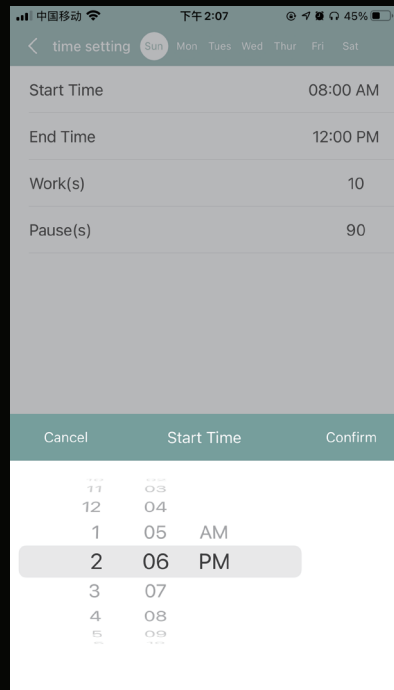

Figure 10
5. Click “Set up” on the main interface to set the working frequency(Refer to Figures 10 and 11).